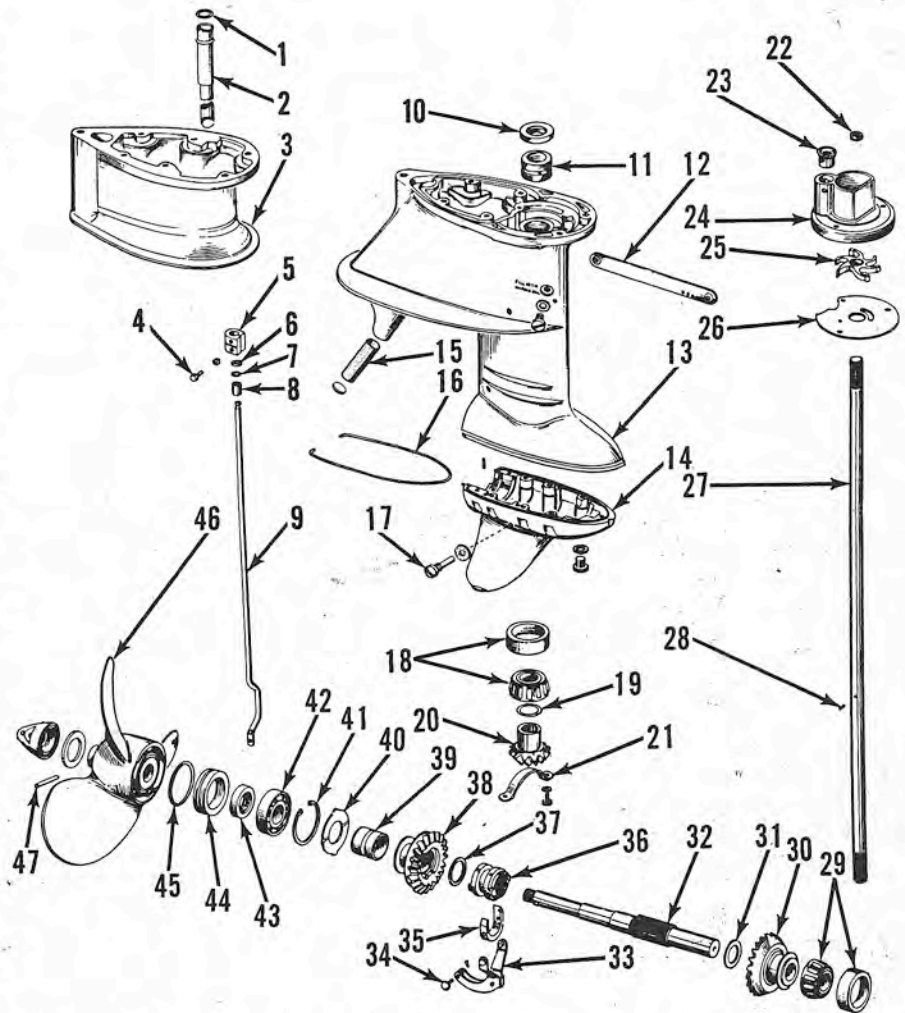
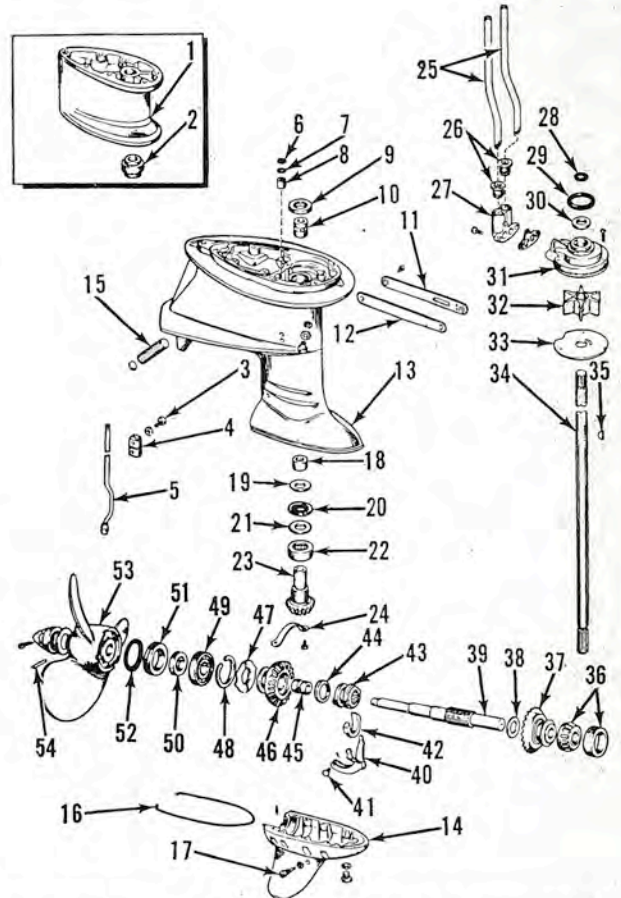

Fig. J63—Exploded view of lower unit gearcase, water pump and associated parts used on early models. Parts (1, 2 & 3) are only used with "Long" models.
Fig. J64—Exploded view of lower unit gearcase and associated parts used on late models. Parts in inset are used on "Long" models only.
the gearcase where it washes out the lubricant. Look for water leaks if the gearcase requires an abnormal amount of lubricant. Use appropriate exploded views (Fig. J63 or J64) as a guide when overhauling the
The propeller shaft (32—Fig. J63 or 39—Fig. J64) and drive gears (30 & 38—Fig. J63 or 37 & 46—Fig. J64) can be removed after first draining lubricant from gear compartment, removing pivot screw (17), and unbolting and removing gearcase lower housing (14). To remove pinion (20—Fig. J63 or 23—Fig. J64) it is necessary to remove retainer strap (21—Fig. J63 or 24—Fig. J64).
To separate gear case from the exhaust and drive shaft housing, it is necessary to remove cover (18—Fig. J65 or 33 & 18—Fig. J66) and loosen clamp bracket screw (4—Fig. J63 or 3—Fig. J64). Gear case can then be unbolted and separated from exhaust housing.
On motors after 1956, observe the following. Pinion thrust bearing races (19 & 21—Fig. J64) are of different size. Bearing race (21) has a $\frac{7}{8}$ -inch diameter inner hole and should be installed on pinion first. Race (19) has a $\frac{1}{8}$ -inch diameter hole and fits more snugly in gear case. When reassembling, install a new sealing strip (16) and trim the ends to extend $\frac{1}{8}$ -inch from ends of seal groove.